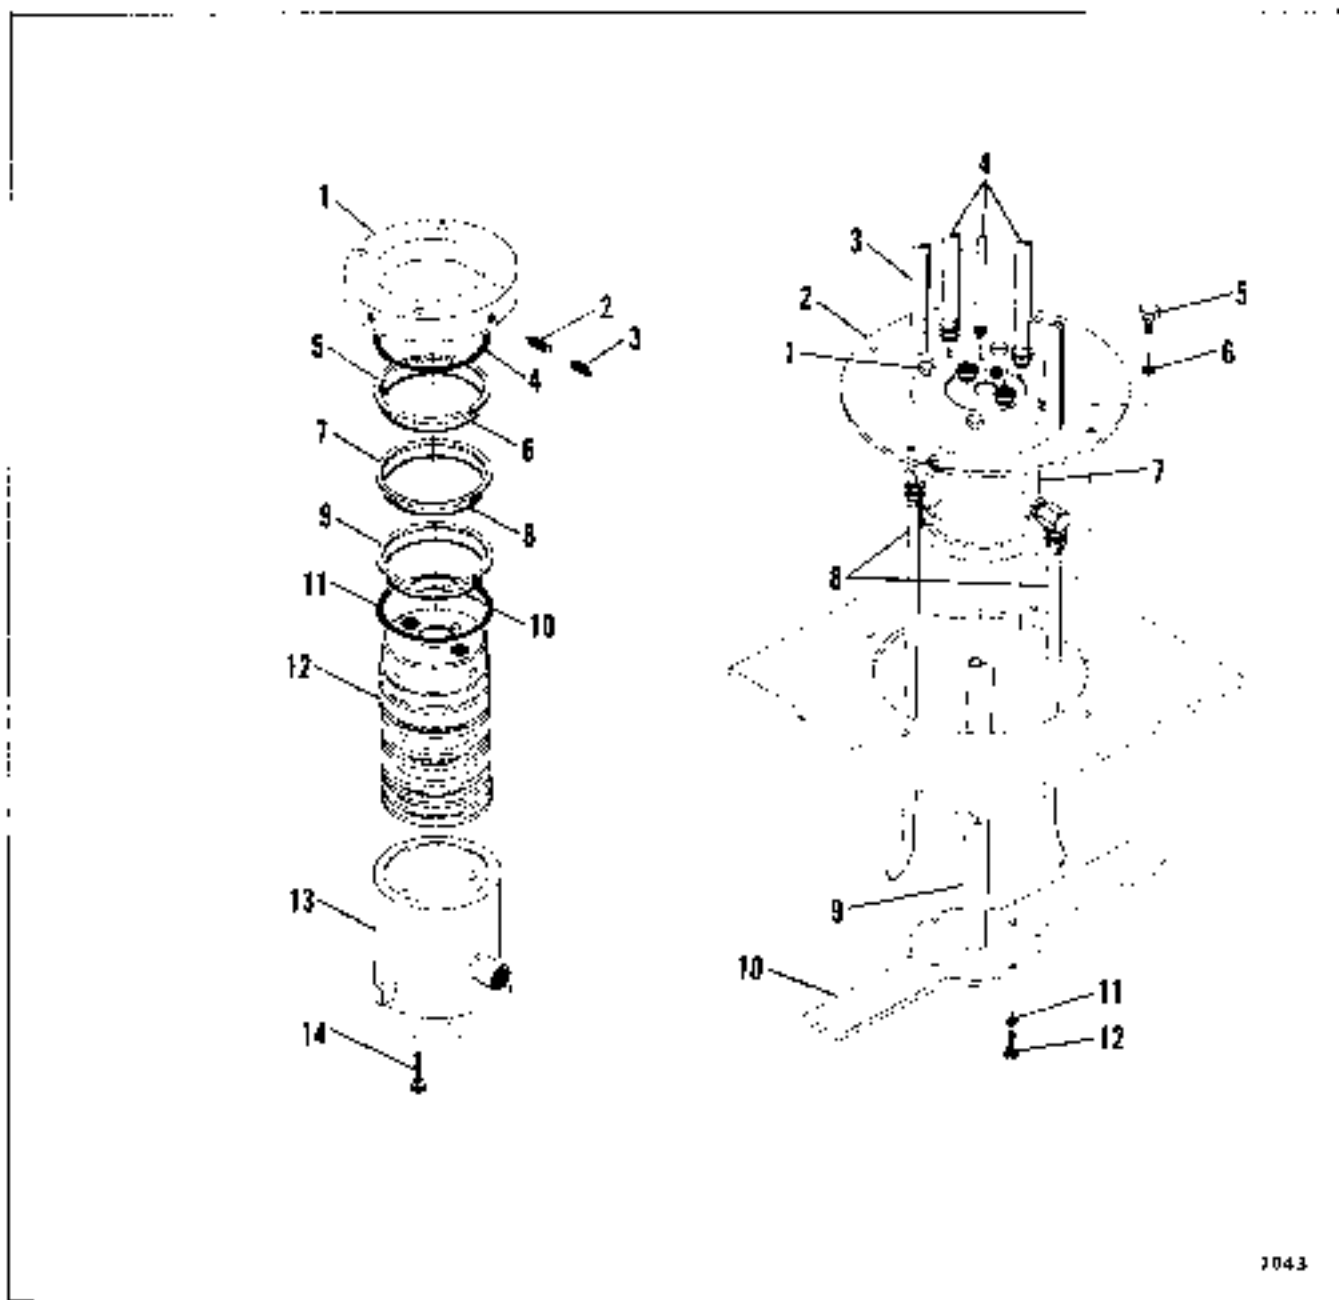

Figure 3-18. Hydraulic Swivel Coupling Assembly
Hydraulic Swivel Coupling — Disassembly. (Refer to Figure 3-18.)
Hydraulic Swivel Coupling — Reassembly. (Refer to Figure 3-18.)
2. Install new seals and rings on spool. (Refer to Arrangement of Discarded Seals and Rings, Figure 3-18.)
Hydraulic Swivel Coupling — Installation. (Refer to Figure 3-18.)